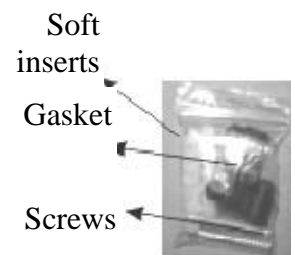

Fig. 3
- You need the following for installation: 2 soft inserts, 2 screws, 4 gaskets (all mentioned you will find in gift box). **Fig.3.**